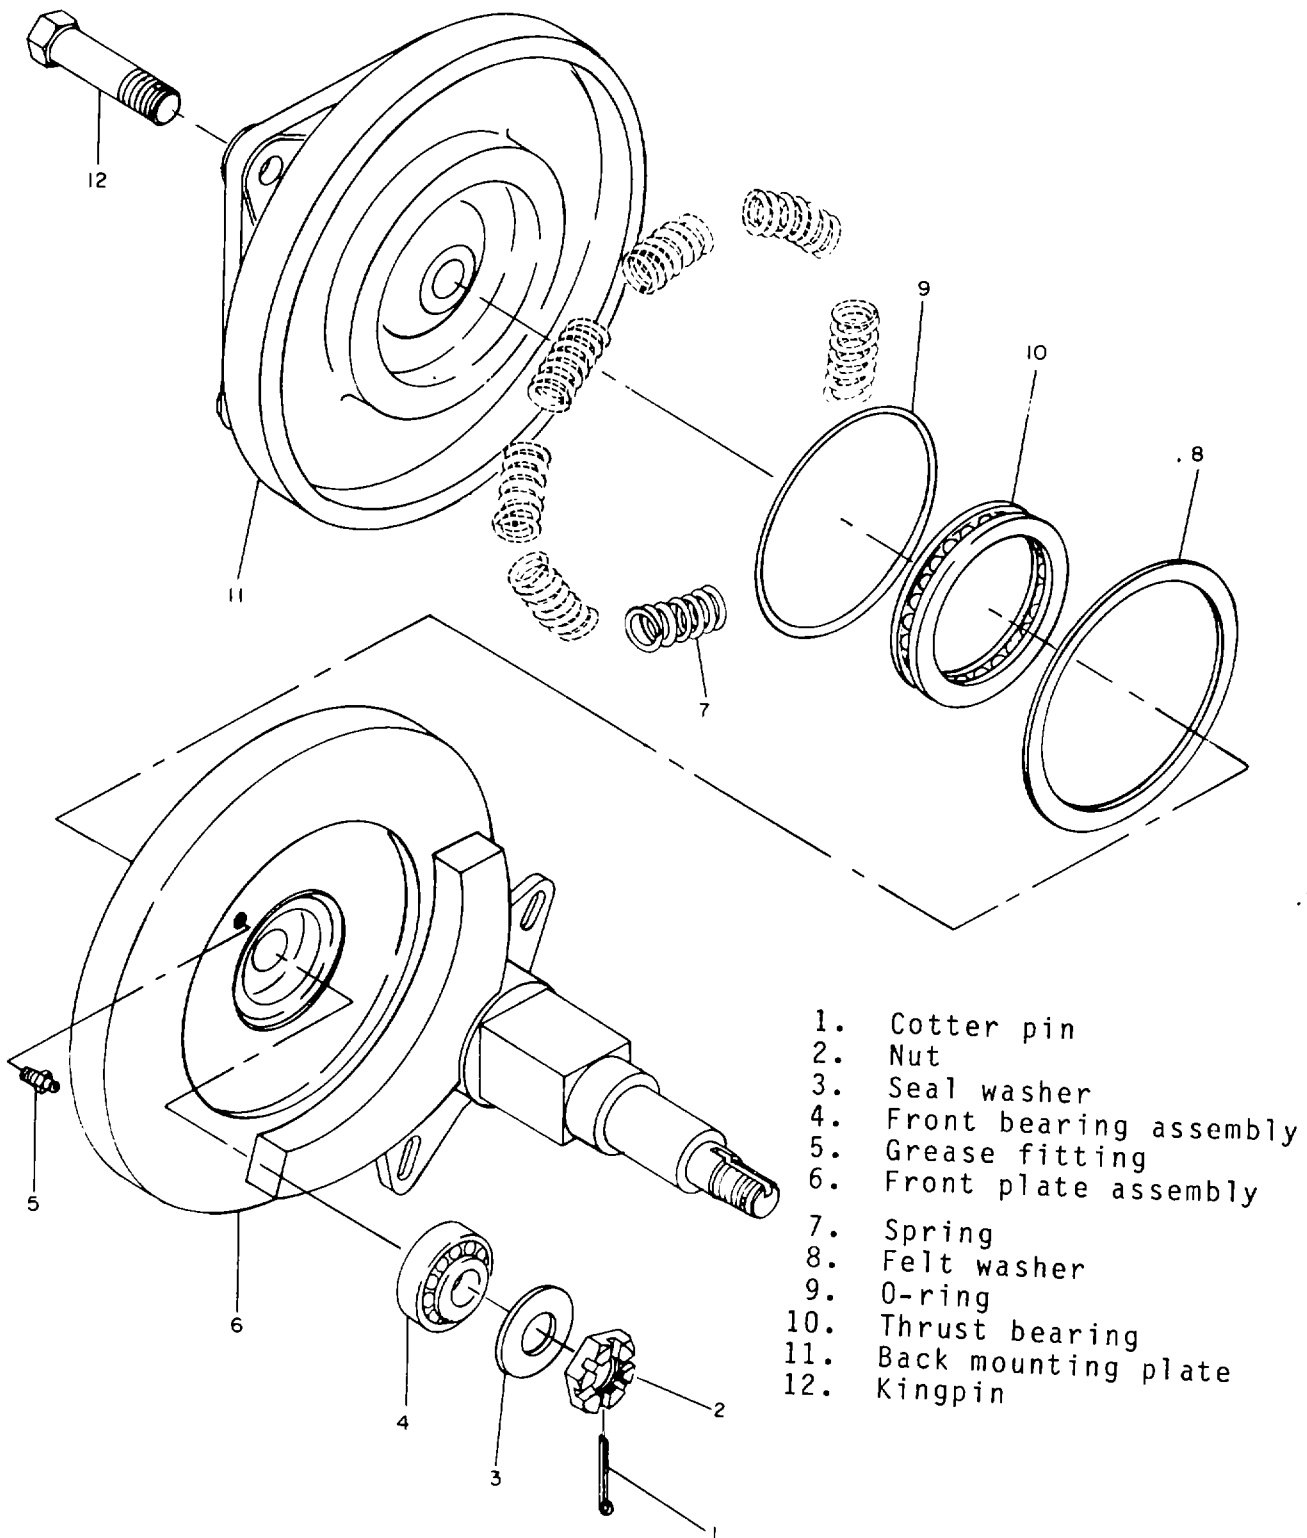

Figure 4-5. Banjo suspension spring assembly (used on rear transporter assembly)
- (1) Remove cotter pin (1. fig. 4-5) and nut (2).
- (2) Remove seal washer (3) and front bearing assembly (4).
- (3) Slowly remove front plate assembly (6).
- (4) Remove seven springs (7).
- (5) Remove felt washer (8), O-ring (9), and thrust bearing (10).